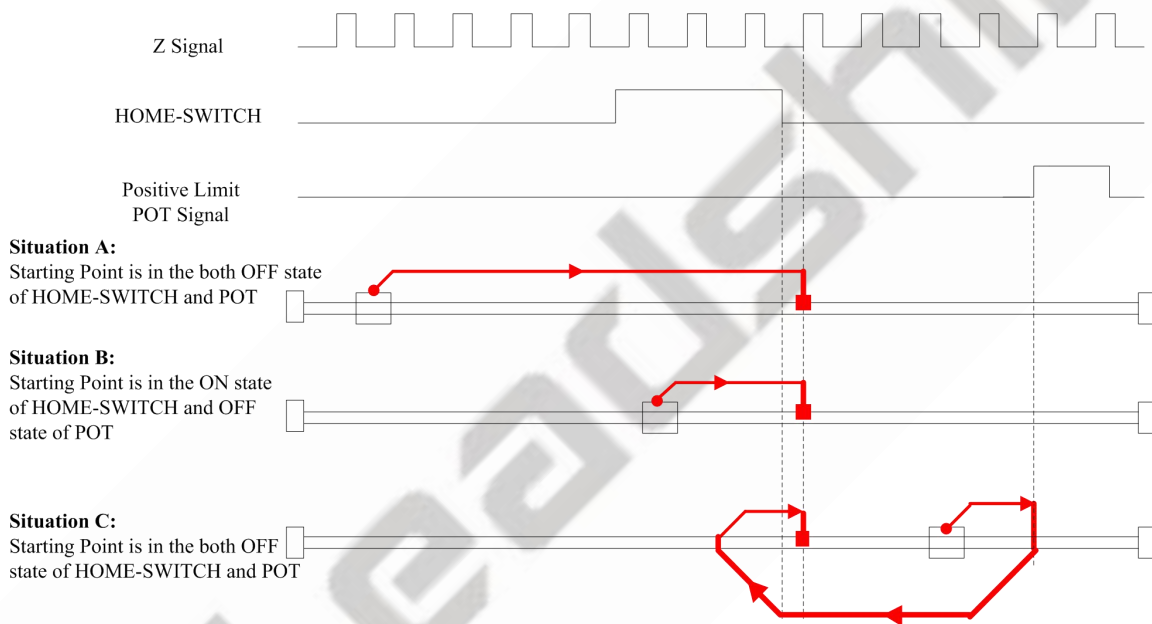

Figure 7-10 Method 10
- If the motor starting point is in the OFF state of HOME-SWITCH and Positive Limit, it will move toward positive direction at Low Homing Velocity (6099-02h), it will stop at the first effective Z signal during the OFF state of HOME-SWITCH, as shown in Situation A of Figure 7-10.
- If the motor starting point is in the ON state of HOME-SWITCH and OFF state of Positive Limit, it will move toward positive direction at Low Homing Velocity (6099-02h), it will stop at the first effective Z signal during the OFF state of HOME-SWITCH, as shown in Situation B of Figure 7-10.
- If the motor starting point is in the OFF state of HOME-SWITCH and Positive Limit, it will move toward positive direction at Low Homing Velocity (6099-02h) until the Positive Limit goes ON to have a quick stop, then moves toward negative direction at Fast Homing Velocity and have a deceleration stop when HOME-SWITCH goes ON, then moves toward positive direction at Low Homing Velocity and stops at the first effective Z signal during the OFF state of HOME-SWITCH, as shown in Situation C of Figure 7-10.
- If the motor starting point is in the OFF state of HOME-SWITCH and Negative Limit, it will move toward negative direction at Low Homing Velocity (6099-02h) until the Negative Limit goes ON to have a quick stop, then moves toward positive direction at Fast Homing Velocity and have a deceleration stop after leaving HOME-SWITCH, then move toward negative direction at Low Homing Velocity, the motion stops at the first effective Z signal during the ON state of HOME-SWITCH, as shown in Situation C of Figure 7-10.